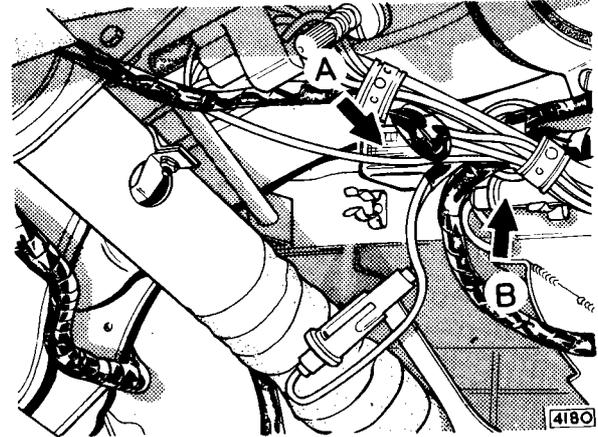

Fig. 88 Hazard warning light unit 'A' and in-line fuse 'B'
See Fig. 88 (A) for the location of the hazard warning unit.